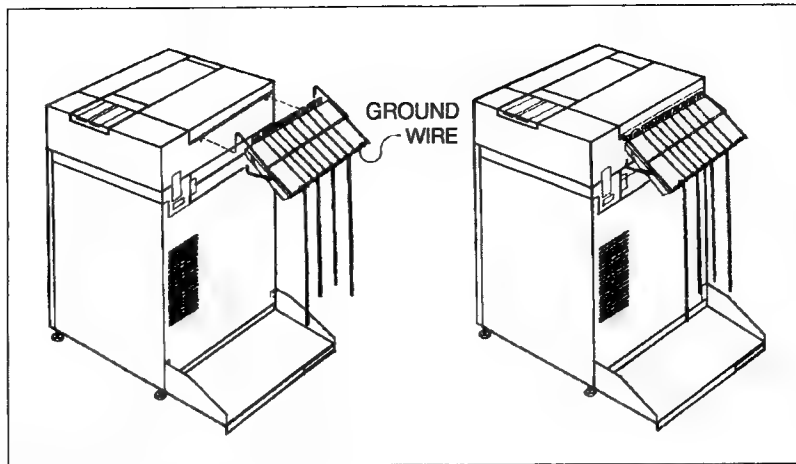

Figure 2-17. Attaching Wire Form
- d. Attach the wire form. Hook the wire form into the holes on the top cover (Figure 2-17). Make sure the four chains hang freely.